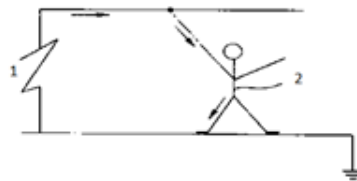

Figure 1
- In Figure 1 below, the worker (2) stands directly on the ground and in effect completes the circuit. Current flow from the source (1) flowing directly through the worker to ground, creates a potentially fatal situation